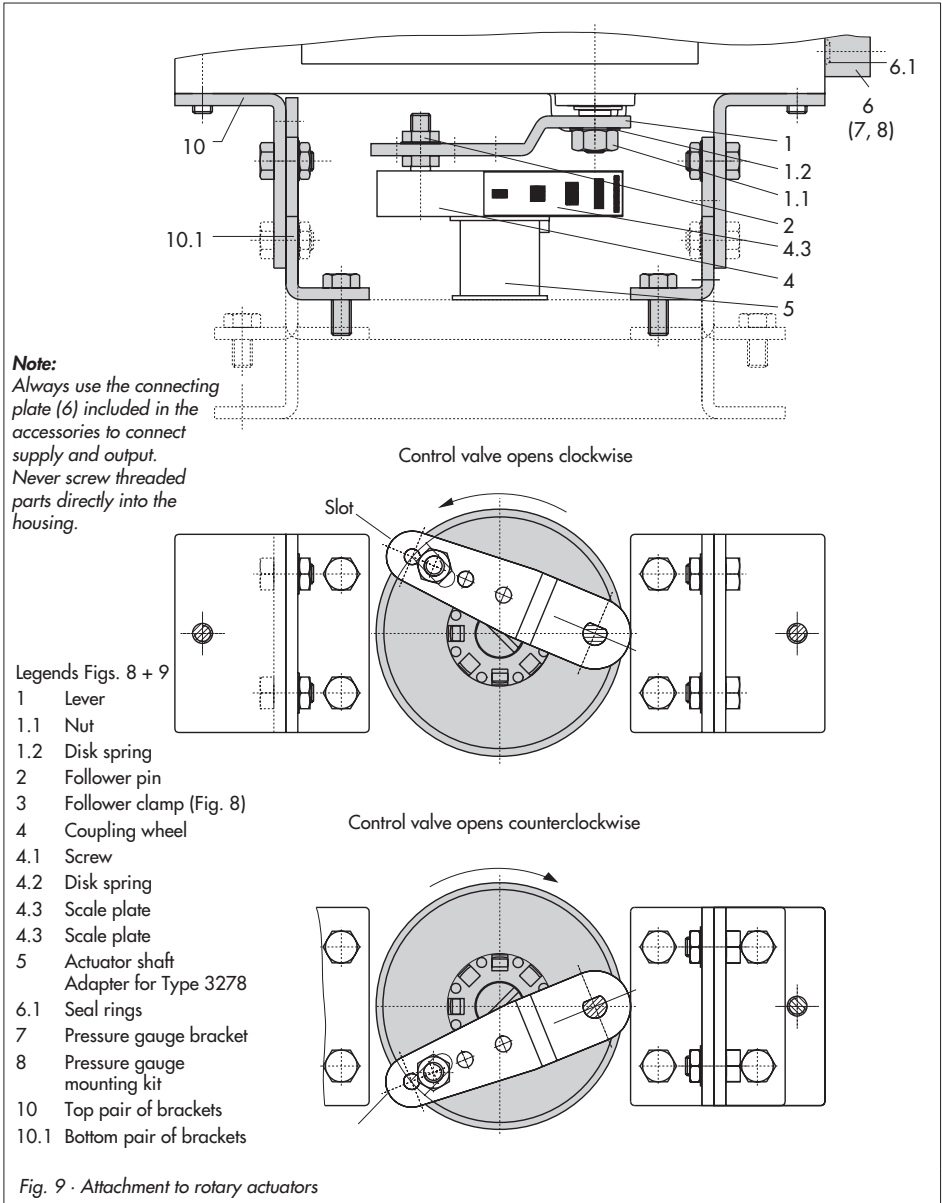

Fig. 9 · Attachment to rotary actuators
1. Place follower clamp (3) on the slotted actuator shaft or the adapter (5).
2. Place coupling wheel (4) with flat side facing the actuator on the follower clamp (3). Refer to Fig. 9 to align slot with the direction of rotation when the valve is in its closed position.
4. Screw the bottom pair of brackets (10.1) with the bends pointing either to the inside or to the outside (depending on the actuator size) to the actuator case. Position top pair of brackets (10) and screw tight.
5. Mount connecting plate (6) or pressure gauge bracket (7) with pressure gauges to the positioner, making sure both O-rings are seated properly.
6. Unscrew the standard follower pin (2) from the positioner's lever **M** (1). Use the metal follower pin ($\varnothing 5$) included in the mounting kit and screw tight into the bore for pin position **90°**.
7. Place positioner on the top pair of brackets (10) and screw tight. Considering the actuator's direction of rotation, adjust lever (1) so that it engages in the slot of the coupling wheel (4) with its follower pin (see Fig. 9). It must be guaranteed that the lever (1) is parallel to the long side of the positioner when the actuator is at half its angle of rotation.